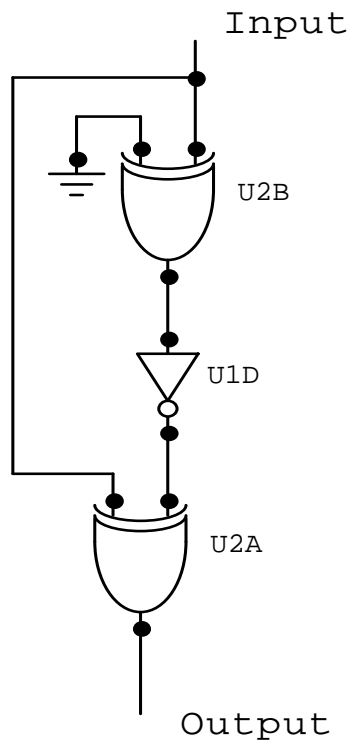

Figure 4.3: Dual Edge Detector Circuit
4. The circuit shown in Figure 4.3 is the "Dual Edge Detector" recommended by FAIRCHILD'S APPLICATIONS HANDBOOK.